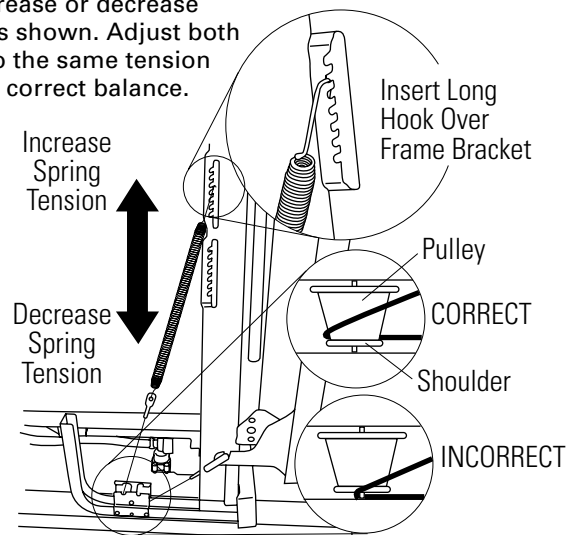

Figure 11
- Repeat the same procedure on the left side of the unit. Both springs should be on the same notch on the frame bracket as shown in Figure 11.
Check to be sure the spring cable is routed correctly before making spring adjustments. The cable is held in place by "shoulders" on the pulley. See Figure 11. Check to be sure the cable has not slipped over the pulley shoulder and onto the axle.